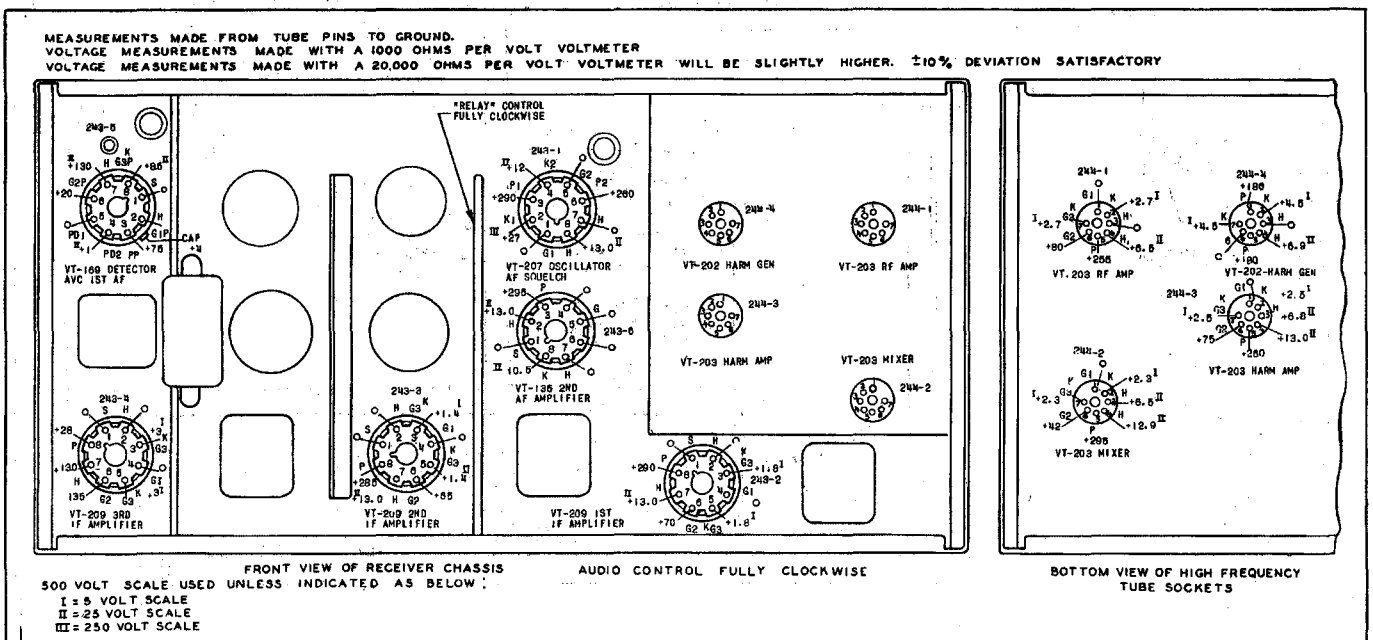

Figure 5-3. Tube Socket Layout and Voltage Measurements for Radio Receiver BC-624-A
(g) Use the 500-volt scale and make the measurements to chassis ground unless otherwise specified. Follow the additional directions given in the voltage diagram, figure 5-3.
* Note that this tube is a duplex diode-pentode. For diode voltages refer to figure 5-3.